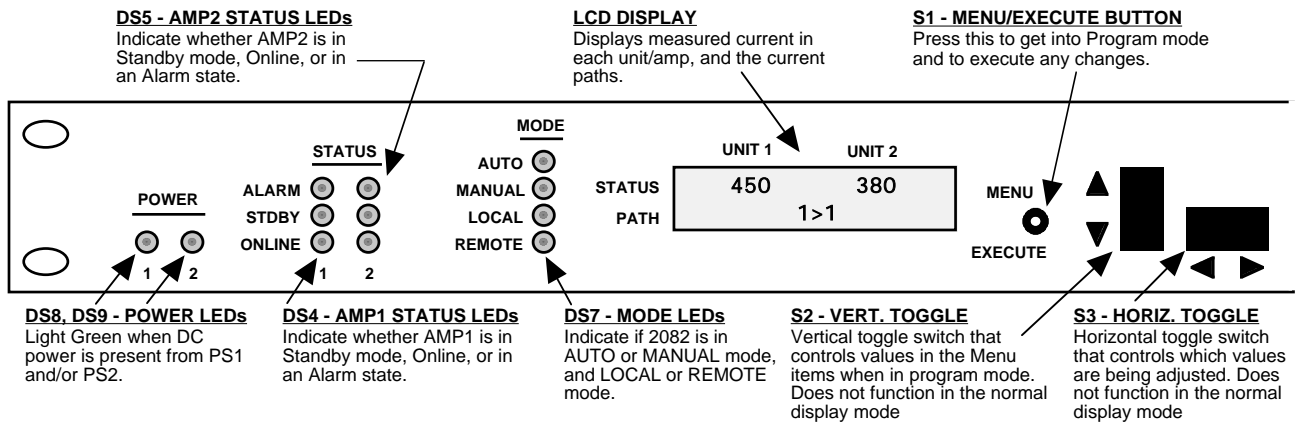

FIGURE 2.2 2082-141 Front Panel Controls and Indicators
Figure 2.2 shows the front panel controls and indicators.
3. Be sure DS8 & DS9 (green, DC Power) are on and red Alarm indicators are off (Figure 2.2).
Alarm indications appear on the LEDs (see Figure 2.2).